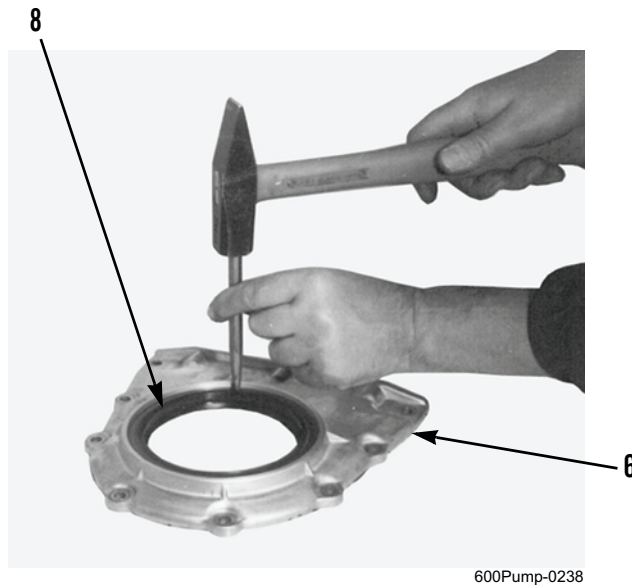

Figure 3. Removing Rear Main Seal.
5. Remove rear main seal (Figure 3, Item 8) from rear cover (Figure 3, Item 6). Discard rear main seal.